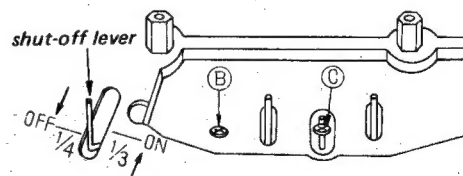

Fig. 5-1-2. Automatic shut-off switch adjustment (2)
5. Push the shut-off lever slowly by the hand, and check to see that the microswitch turns on when the lever comes the one-third position of the slot as shown in Fig. 5-1-2.
6. If necessary, adjust the position of the microswitch by loosening the screws (B) and (C).
7. Release the shut-off lever, and make sure that the microswitch turns off when the actuator comes at one-fourth position of the slot (See Fig. 5-1-2).